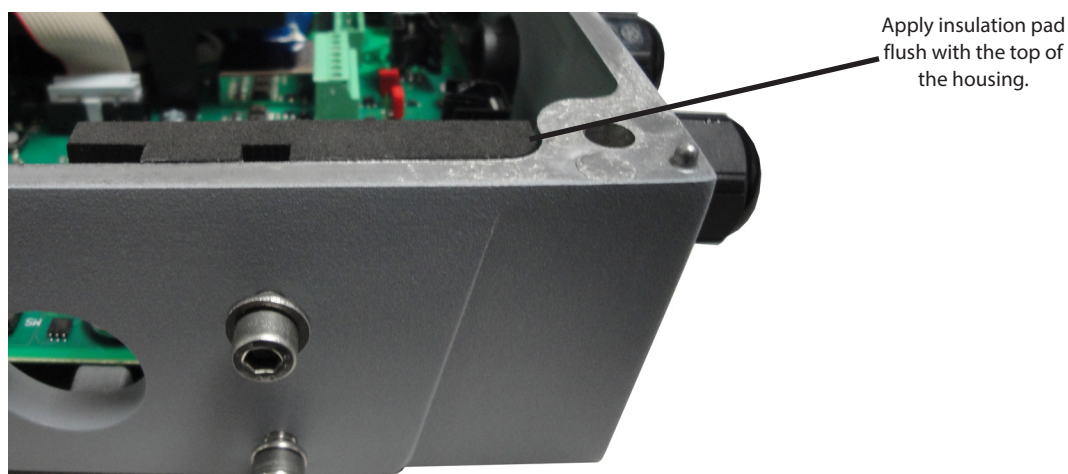

Figure 3: Installing foam insulation pad
3. Prior to inserting the daughterboard, install the foam insulation pad as shown Figure 3 on page 5. Be sure to align the groove with the two screws attaching the detector or wall mount bracket to the enclosure. The primary purpose of this pad is to ensure the daughterboard is insulated from the enclosure wall. It is important to install this pad flush with the top of the enclosure wall.